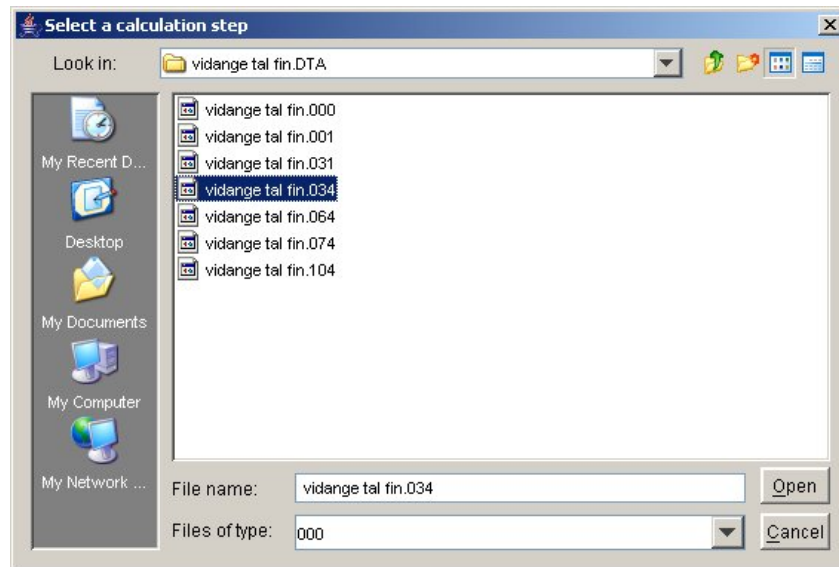

Figure 88: choice of the calculation step for pore pressures importation
- The calculation step from which the pore pressures should be imported (Figure 88). Talren 4 automatically proposes the list of Plaxis v8 calculation steps available for the selected plx file (this may take a few seconds): you should select one of these available calculation steps.